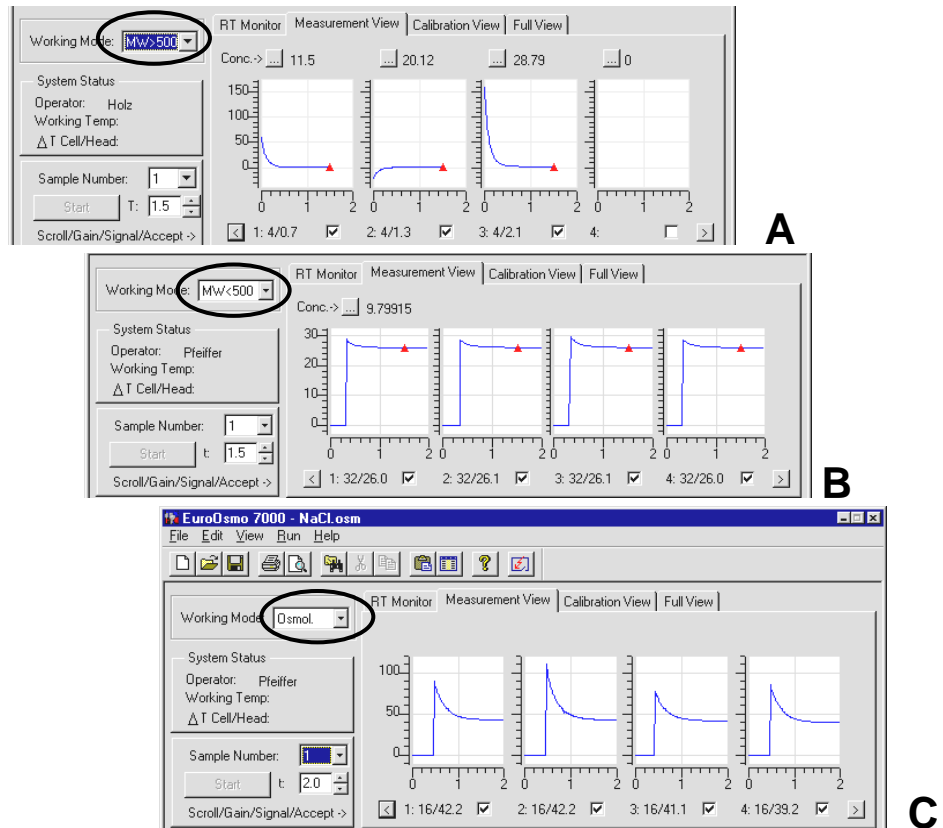

Fig. 20 Upper monitor part (measurement view) depending on the operation mode
Please use the < and > buttons to scroll the runs. The control fields below each of the curves can be used to accept or reject single runs. The gain and signal values and as far as for the measurement mode necessary the concentrations are also given and scrolled in this view (compare also Fig. 20 on page 25). Only in case of determination of molecular masses below 500 g/mol (B), the measurement and calibration views differ from each other. Its calibration view looks like the measurement view of osmolality mode (A). The time of the measurement value acquisition is marked by a red triangle. Any measurement or calibration curve will be enlarged in the full view up to this triangle by a double click on the corresponding curve window. In the upper right corner you it is indicated, which curve is selected. It is the calibration curve no. 2 in the shown example marked by a C. A leading letter M indicates measurement curves.